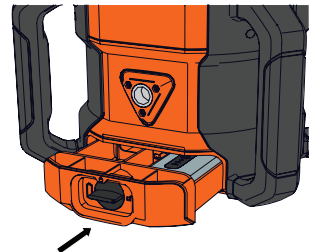

Figure 15
6. Reinsert the battery compartment into the rotary laser. (Figure 15)